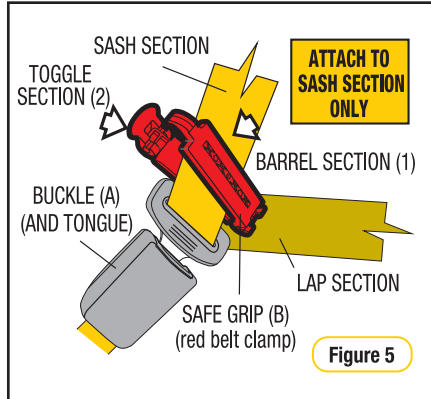

Figure 5
**Step 6:** Check to sight the location of the appropriate shoulder slots (in main shell), refer Figure 5.
**Step 3:** Push down on the base of the restraint (with knee or hand) whilst pulling the sash section of the vehicle belt firmly up in the direction of the yellow arrow in Figure 4. (This will tighten the lap belt across the seat base). Whilst continuing to pull the sash section up, attach the Safe Grip red belt clamp on the sash section ONLY as close as possible above the buckle tongue assembly. (Refer to Figure 5 and Instruction for installing the Safe Grip red clamp below)
To install the **Safe Grip** (red belt clamp), open it and clamp the “sash section” **ONLY** of the vehicle seat belt by closing the barrel section of the red belt clamp in the direction of arrow 1 in Figure 5 and then locking with the toggle section by pushing in the direction of arrow 2 in Figure 5 when the **Safe Grip** (red belt clamp) is secured in place, the lap section is now tightly holding your child restraint in place, independent of the sash section. The **Safe Grip** (red belt clamp) must be removed when the child restraint is not installed to allow other users to use the seat belt as a lap/sash seat belt. Always keep the **Safe Grip** (red belt clamp) in pocket provided when not in use.